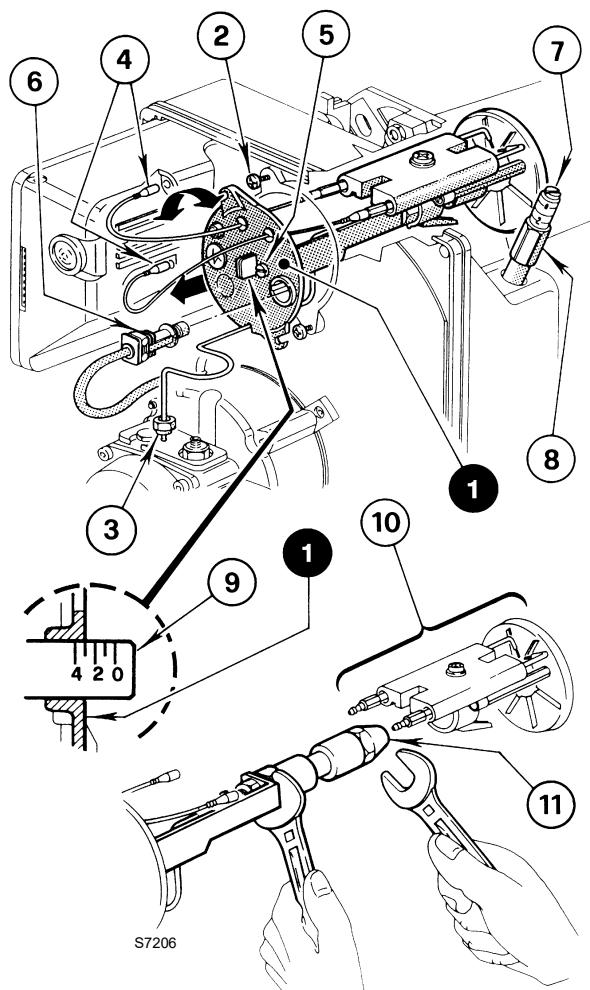

Fig. 10
The adjustment of the combustion head varies depending on the burner output (Fig. 10).
- turn the adjustment screw 5) clockwise or anti-clockwise until the notch is against the regulating rod 9)(Fig. 10) and lines up with the outer surface of the nozzle-holder assembly 1)(Fig. 10).
- loosen the nut 8)(Fig. 10) and calibrate the air damper by turning the screw 7)(Fig. 10).
- When the adjustment is completed screw in the nut 8)(Fig. 10) again.